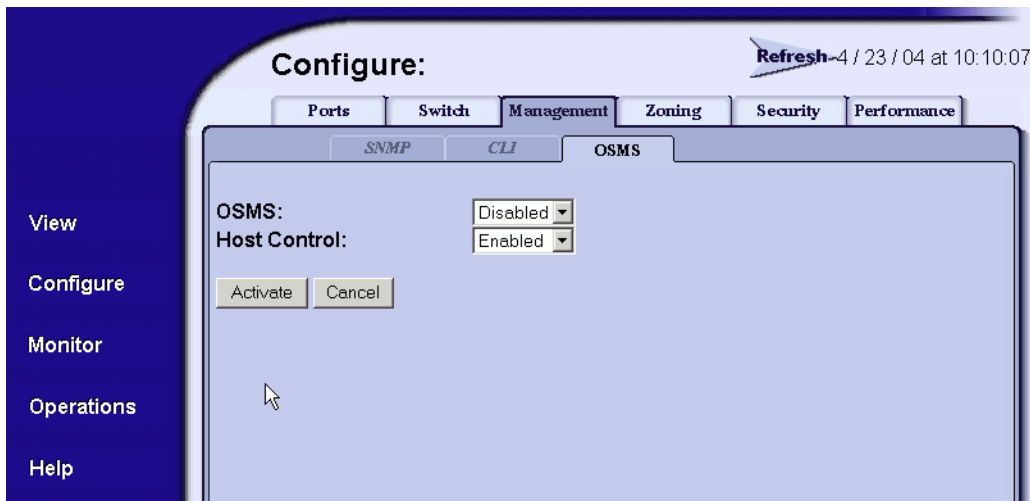

Figure 2-14 Configure Panel (Management Page with OSMS Tab)
1. At the *Configure* panel, click the *OSMS* tab. The *Management* page displays with the *OSMS* tab selected (Figure 2-14).